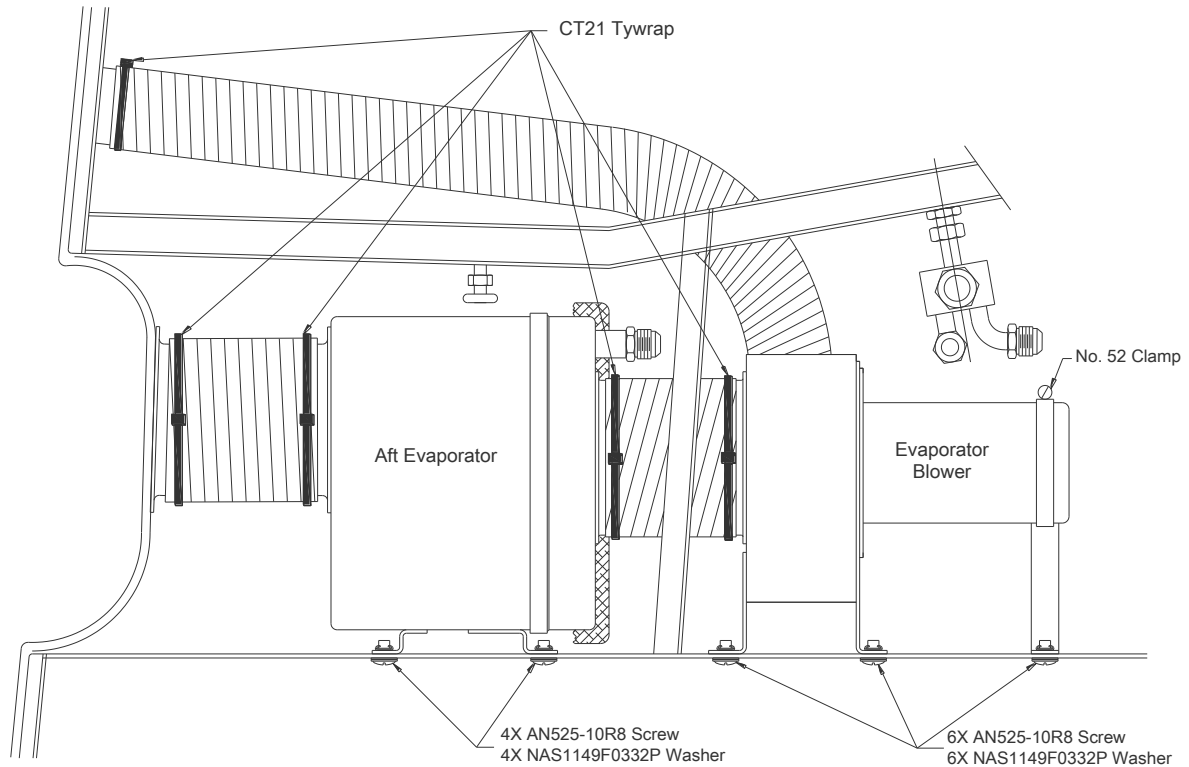

Figure 15: Evaporator Blower - VIEW E-E
8. REMOVE AND REPLACE AFT EVAPORATOR (Figure 15)
9. REMOVE AND REPLACE AFT EVAPORATOR BLOWER (Figure 15)